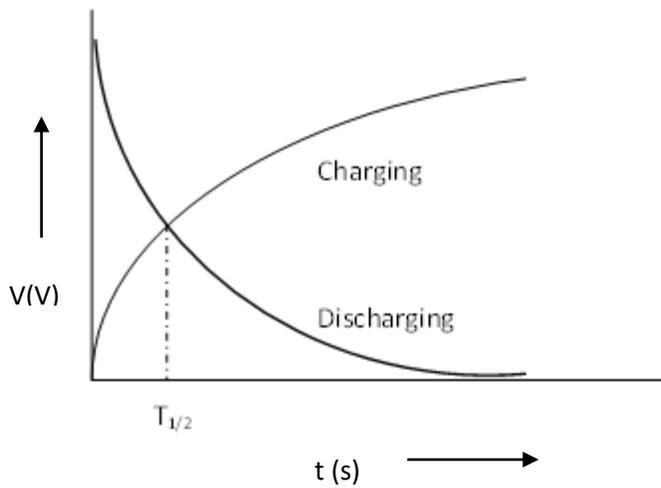

Figure 3.2
6. A graph of voltage versus time is plotted on the same graph for both charging and discharging of a capacitor (Fig 3.2). In graph the meeting point of two curves is noted as time $T_{1/2}$.